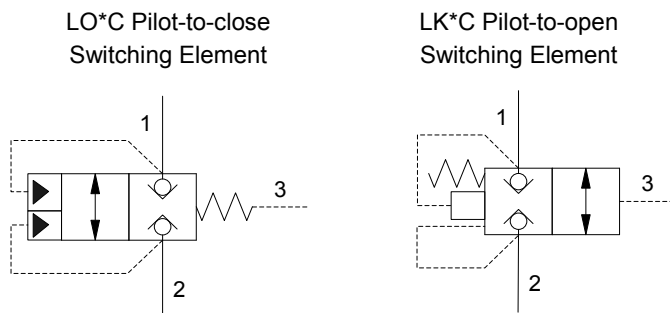

Figure 3: Unbalanced Switching Cartridges
- LK*C pilot-to-open (normally closed) unbalanced switching cartridges (see figure 3).